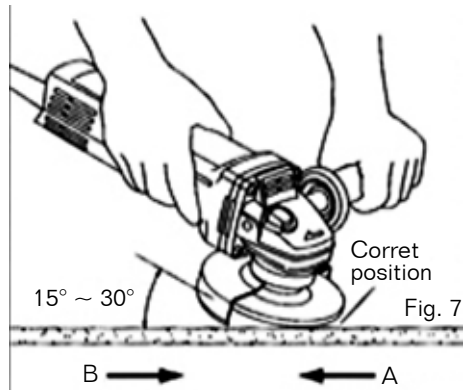

Fig. 7
- c) In order to get good result, the slope between the disc and the working surface should be tilted at the angle of $15^\circ \sim 30^\circ$. (Fig. 7)